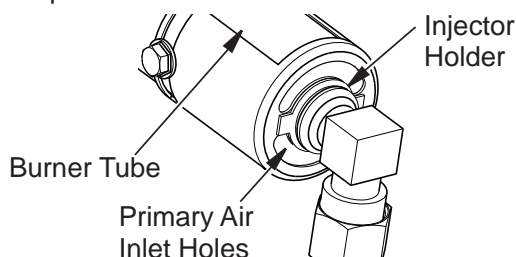

Figure 56 - Injector Holder On Outlet Burner Tube
2. Inspect burner, pilot and primary air inlet holes on injector holder for dust and dirt (see **Figure 56**).